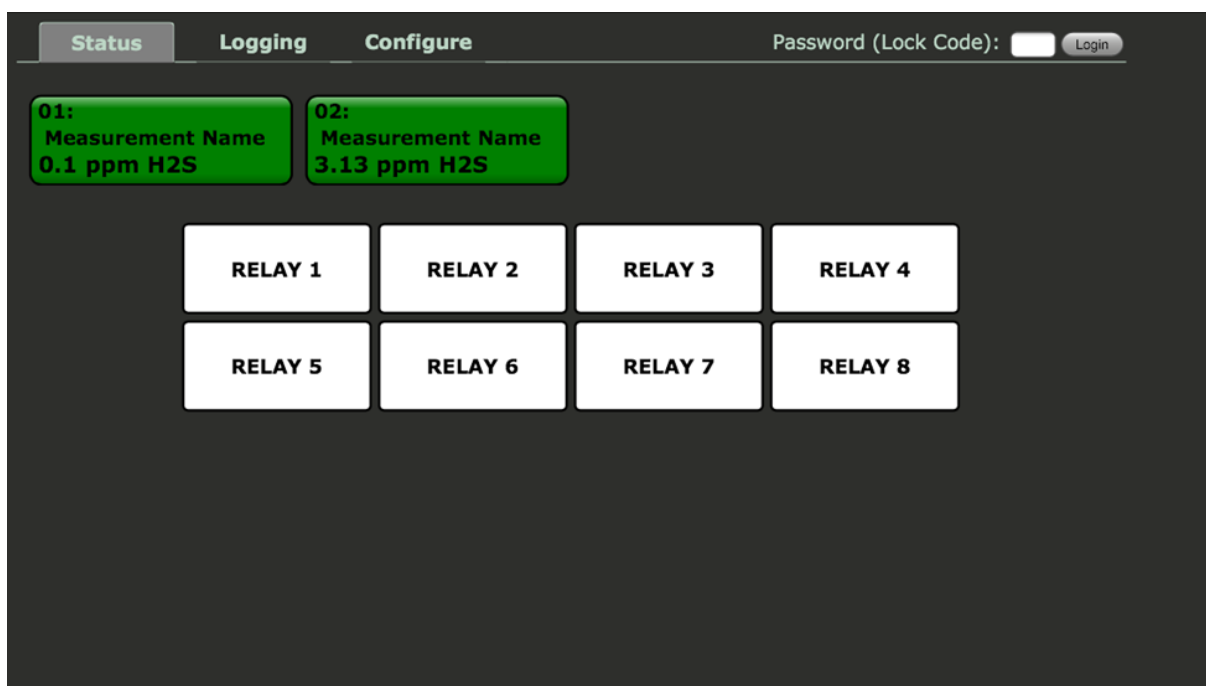

Figure 5-5 – Webpage Status Screen (No Alarms)
- The display box is red (Figure 5-5).